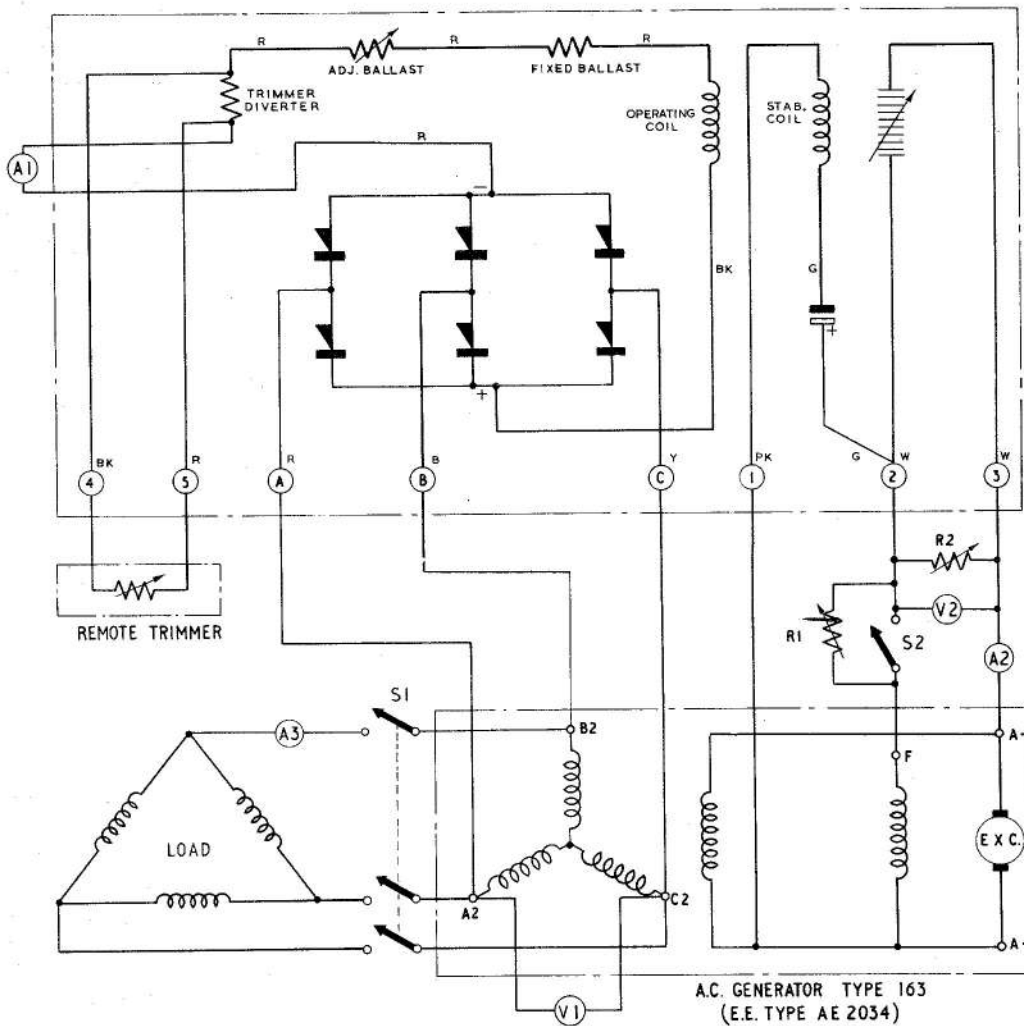

Fig.5 Test circuit diagram
9. Connect the regulator to the test circuit, as shown in fig.5. It is desirable that the a.c. generator, Type 163 (E.E. Type AE.2034), should be used; if the correct machine is not available, tests should be made using a machine of substantially similar characteristics, and the stabilising winding disconnected for all tests. The regulator should be adjusted to control the generator output at 200V with the coil current adjusted within the limits of 0.07 - 0.077 amp. cold, with the trimmer in approximately the mid position.